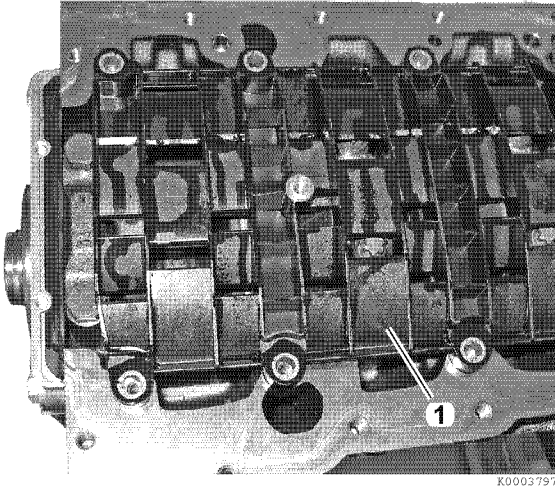

Figure 5-46
3. Remove the oil deflector (1, **Figure 5-46**).